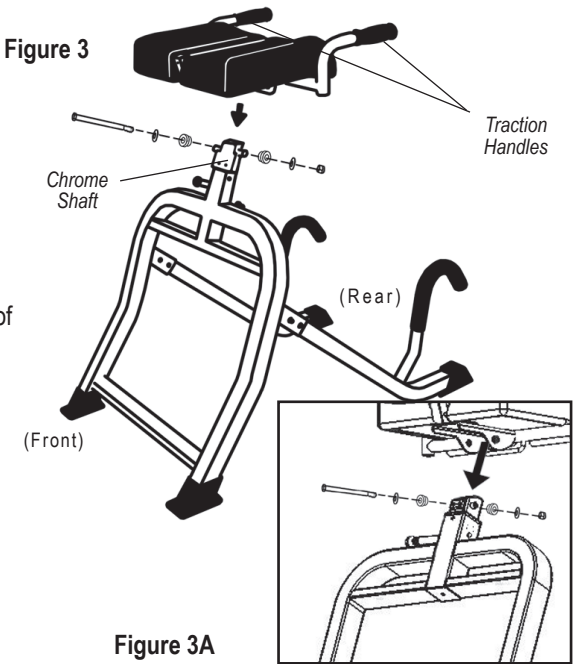

Figure 3A
- Insert the Hex Bolt with Flat Washer and Spacer through the holes, securing the Lap Pad Assembly to the Chrome Shaft. Thread the remaining Spacer with the small end facing the Chrome Shaft and tighten with the Flat Washer and Hex Nut. (See Figure 3A for close-up view)